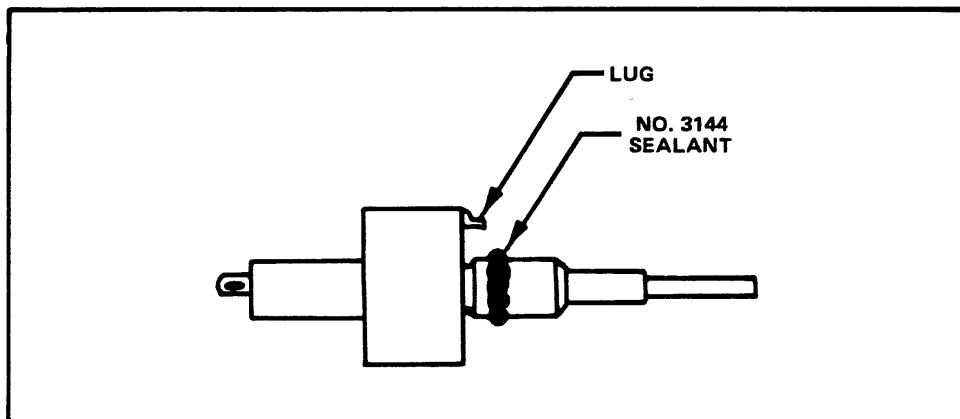
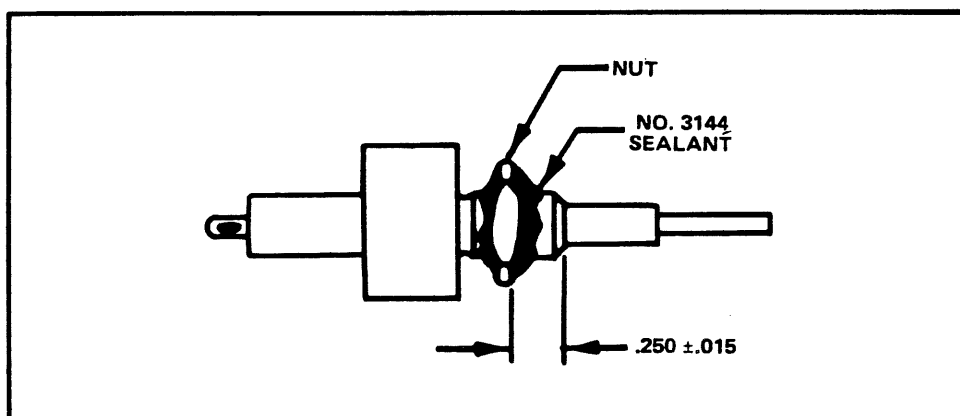

Figure 17. Application of sealant to ZERO REFERENCE control bushing.
Figure 18. Application of sealant to ZERO REFERENCE control nut.
STEP 20. Install the ZERO REFERENCE control in the Front Panel (see Figures 17 and 18)
- (1) 1502 TPN 311-1806-00, MPL Item 2-27.
- (2) 1503 TPN 311-1806-00, MPL Item 2-49.
- (3) This variable resistor is listed in the Electrical Parts List.
- (1) Form a bead of No. 3144 sealant around the threads of the bushing as shown in Figure 17.
- (2) Flatten or remove the anti-rotation lug on the resistor housing.
- (3) Install nut as shown in Figure 18.
- (4) Form a bead of No. 3144 sealant around the nut/bushing interface.
- (5) Use attaching hardware and install resistor in Front Panel.